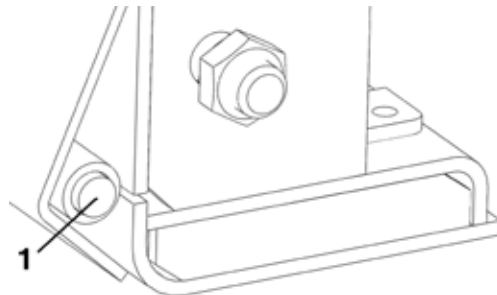

Figure 5-5. Pivot Pin
5. Lower screed to ground and pull front pivot pin out (**Figure 5-5**).